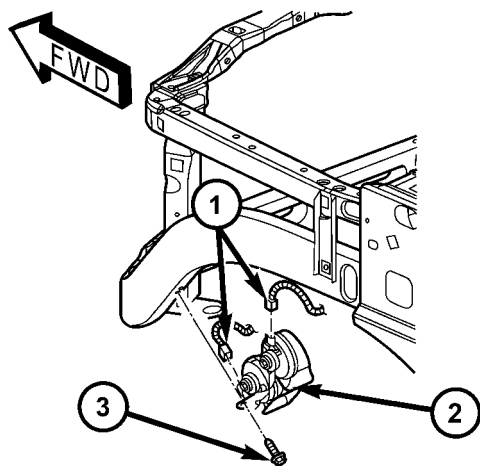

Fig. 1 HORN
(1) Disconnect and isolate the battery negative cable.
(2) Disconnect the wire harness connectors from the horns (Fig. 1).